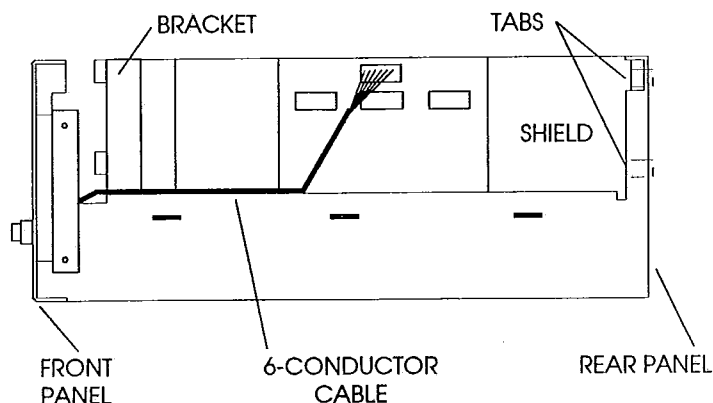

FIGURE 2 R8 SIDE VIEW
- 4) Route the free end of the 6-conductor VHF converter cable vertically down behind front panel (near Volume Control) to the board assembly exposed by removal of bottom cover. See figure 2.
- 5) Position the VHF converter assembly into the chassis as illustrated (Figure 2). The board mounted components should face toward the outside edge of the R8 with the larger of the two component side shields toward the rear panel of the R8. Align the two tabs into the slots located on rear panel of the R8. Reposition any cables at rear panel, as necessary, to allow converter assembly to fit at the rear panel wall.